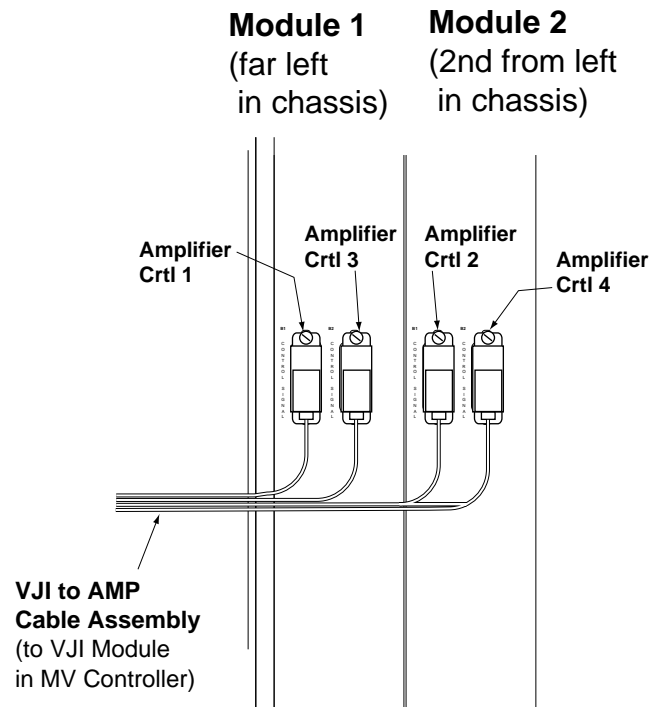

Figure 5-9. Power Chassis to VJI Cable Installation, Model 3303
2. The other end of the cable with four plugs must be connected in the following *special* pattern. See Figure 5-9.